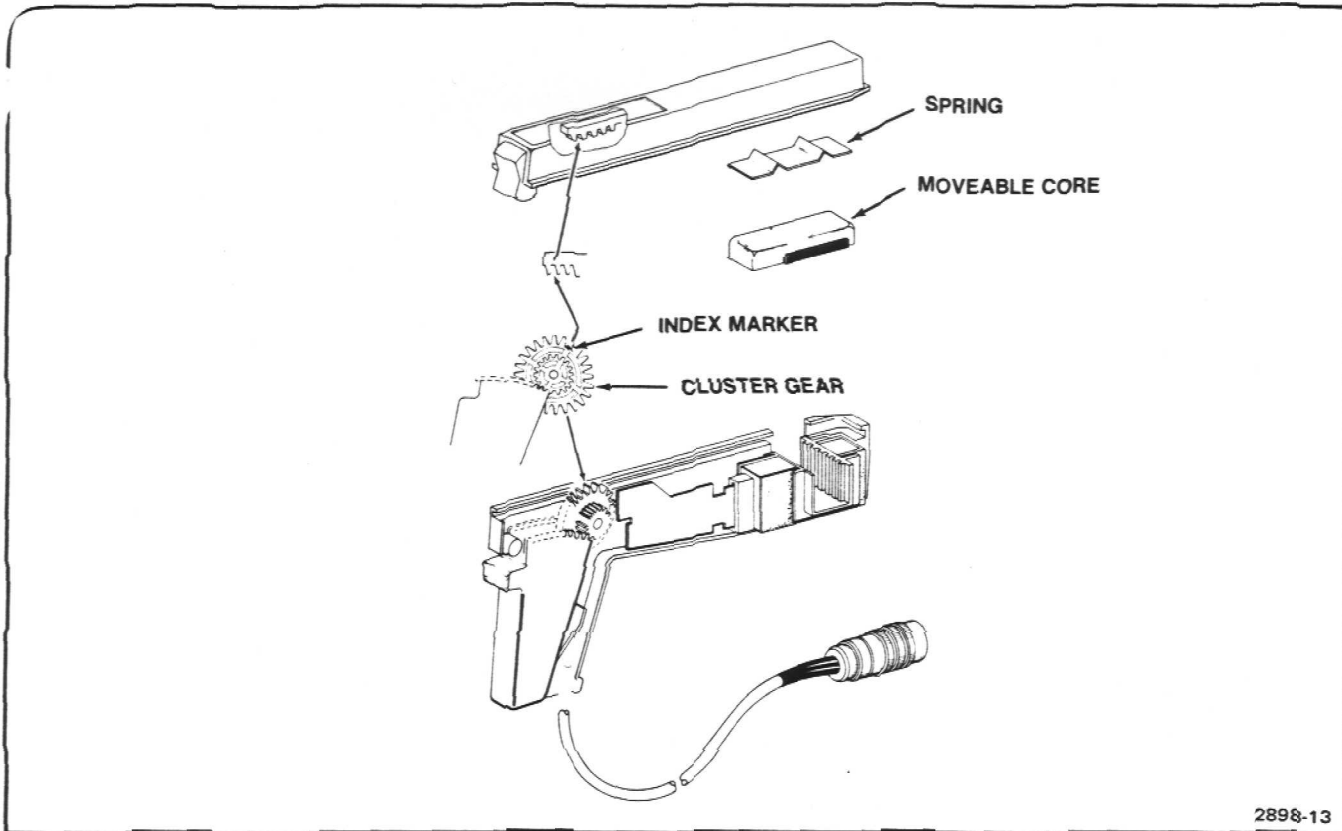

Fig. 12. Probe cluster gear and transformer assembly.
Probe Disassembly (see Fig. 12)
Probe Assembly (see Fig. 12)
- c. Place the cluster gear on its axle (a post protruding up from the probe body). The larger gear fits between the two gear segments on the top of the squeeze-handle. Engage the tooth mentioned in part b with the first groove of the squeeze-handle as shown in Fig. 12.
11. Place the slide, while moving the squeeze-handle, so the indexed tooth on the large gear engages the first groove on the gear rack in the slide (see Fig. 12).